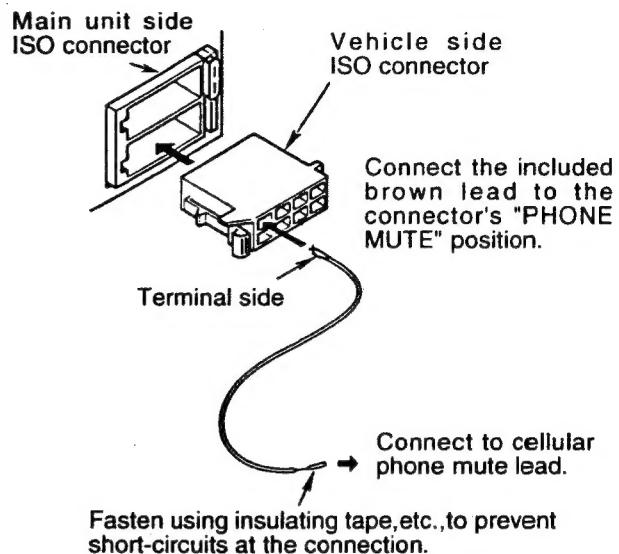

Figure 2
2. The lead included with the unit must be connected to the specified position of the vehicle's ISO connector in order to use the "triggered audio mute for cellular telephones" function.(Figure 2)